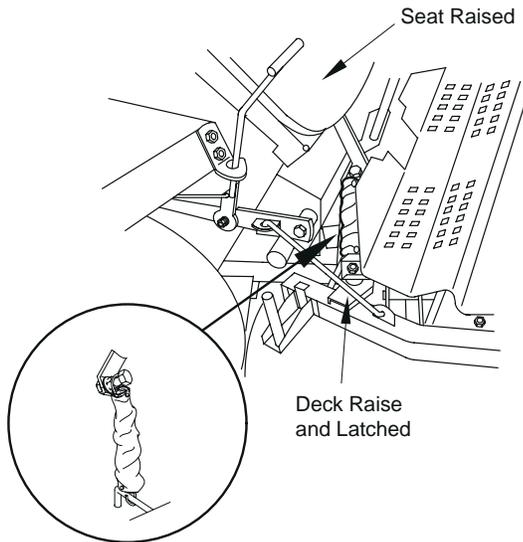

Figure 4-16 Spring Removal
2. Tilt the deck and secure in place with the two prop rods (Figure 4-16).
- A. Raise the cutter deck and lock in place using the two prop rods (Figure 4-16).